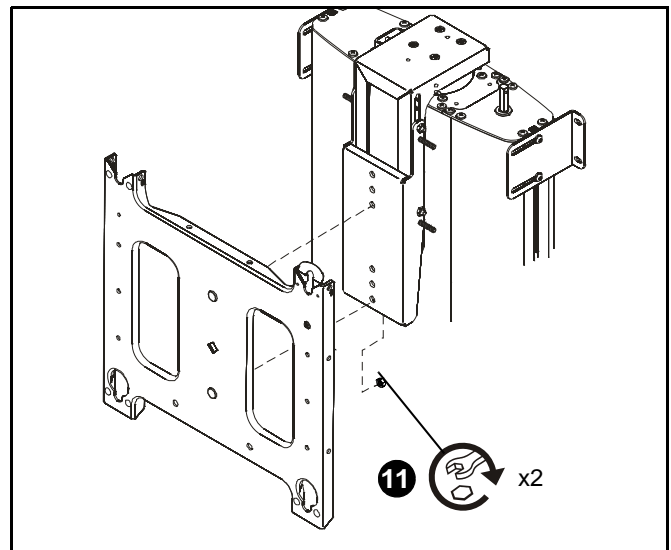

Figure 7
11. Secure faceplate to faceplate mounting bracket using two locknuts. (See figure 7)